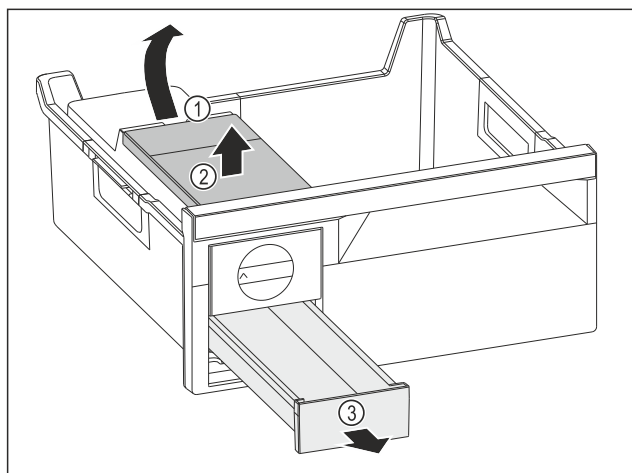

Fig. 147
- Removing the water tank: Lift the water tank by the recess Fig. 147 (1).
- Remove the water tank Fig. 147 (2) upwards.
- Remove the ice cube drawer Fig. 147 (3) to the front.